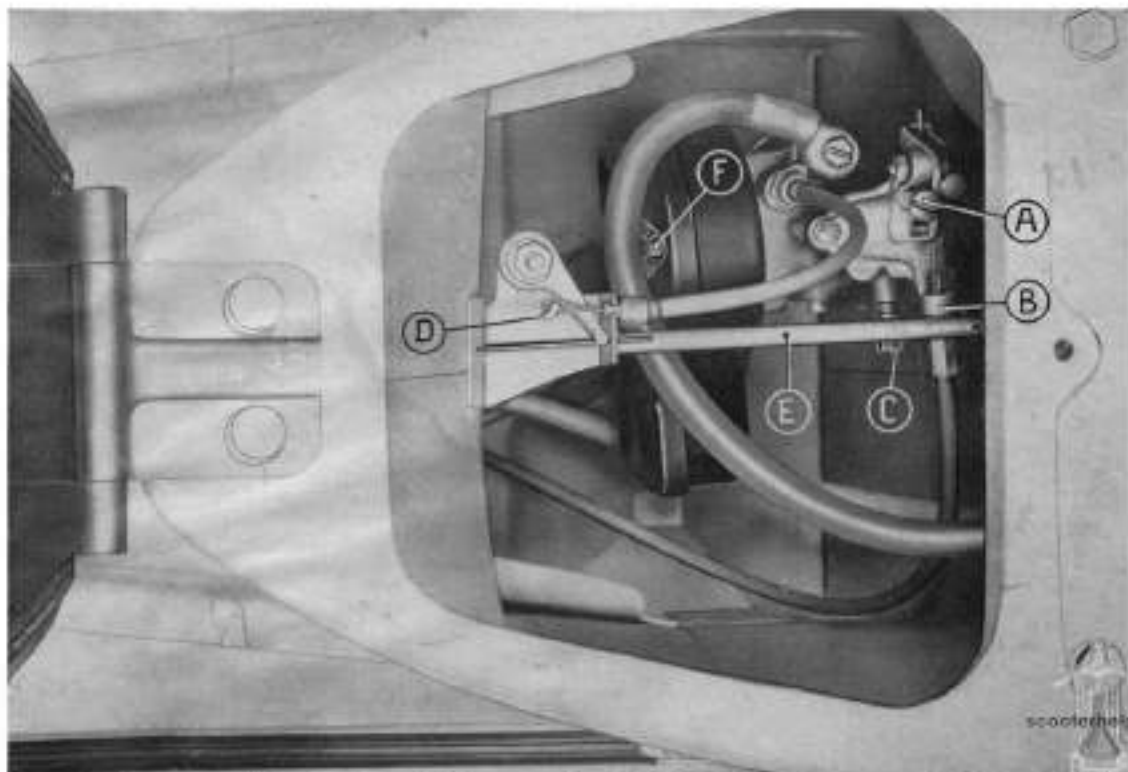

Fig. 12 - To approach the carburetor and air cleaner assy. (For details indicated on the figure, see pag. 16 - 18).
- On the carburettor body a set screw (« B » fig. 12) is provided for adjusting the throttle cable play; this screw is to be reset **only if necessary** or on dismantling and reassembly operations.
- On the air cleaner case, there is a spring loaded screw for adjusting the volume of mixture from idling jet (fig. 9, n. 3 and fig. 12, « C »).
DISMANTLING AIR FILTER	<ul style="list-style-type: none"> — For dismantling the air filter, pivot the seat forwards (fig. 5), remove the tool box and the choke control cable (the cable end ring can be seen on Fig. 12, «D» then dismount the fuel tap rod (see Fig. 12 «E»); next unscrew the two tee head bolts (Fig. 12 «F») securing the air filter case and extract it.